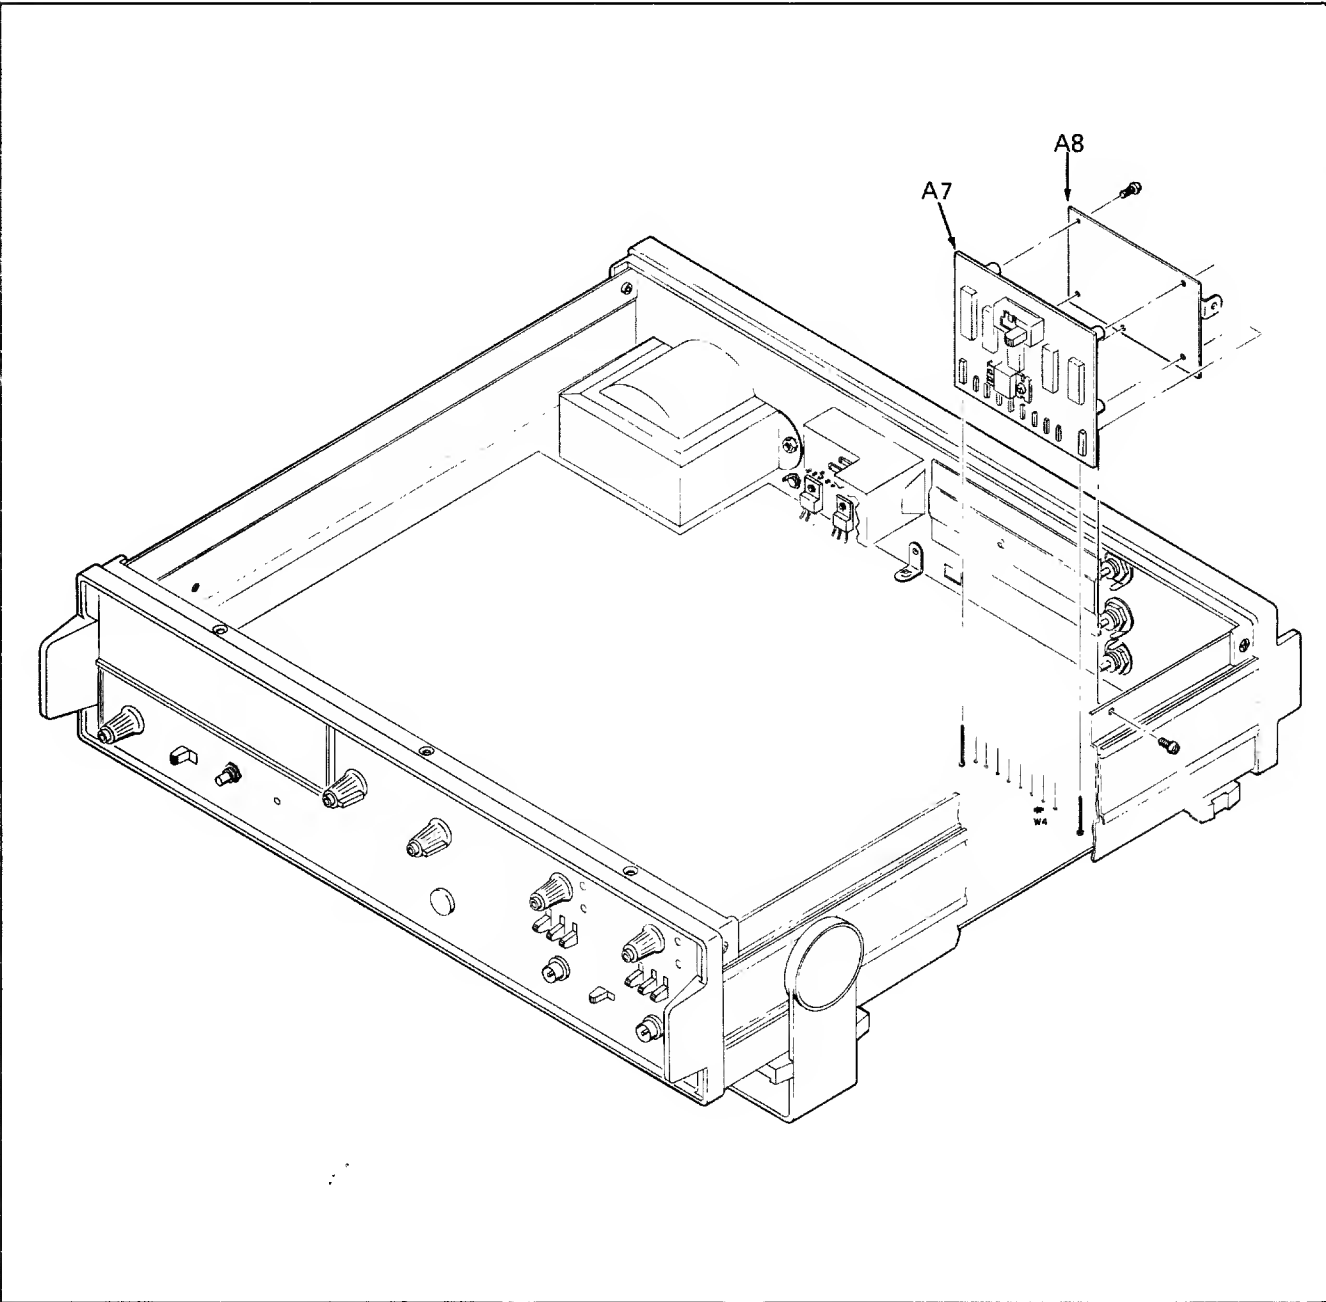

Figure 605-2. -05 Option, External Time Base Multiplier
-05	EXTERNAL TIME BASE MULTIPLIER OPTION 05 FIGURE 605-2